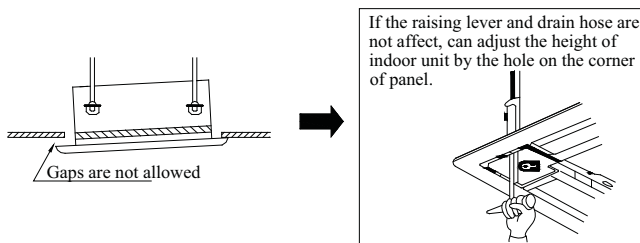

Fig. 15
- ② . If gap still exist between ceiling and decoration panel after tightening the screws, readjust the height of the indoor unit. (As shown in Fig. 15)